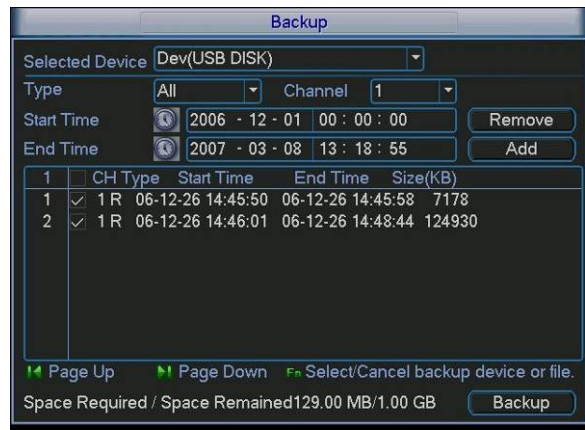
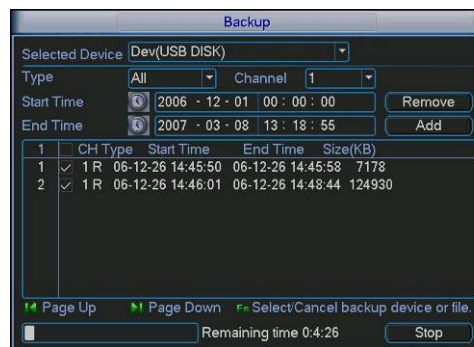

Figure 4-28
Figure 4-29
- Period: Click set button, you can see an interface is shown as in Figure 4-25. Here you can set for business day and non-business day. In Figure 4-28, click set button, you can see an interface is shown as in Figure 4-29. Here you can set your own setup for business day and non-business day.
Click add button, system begins search. All matched files are listed below. System automatically calculates the capacity needed and remained. See Figure 4-28.
Click backup button, system begins burning. At the same time, the backup button becomes stop button. You can view the remaining time and process bar at the left bottom. See Figure 4-29.